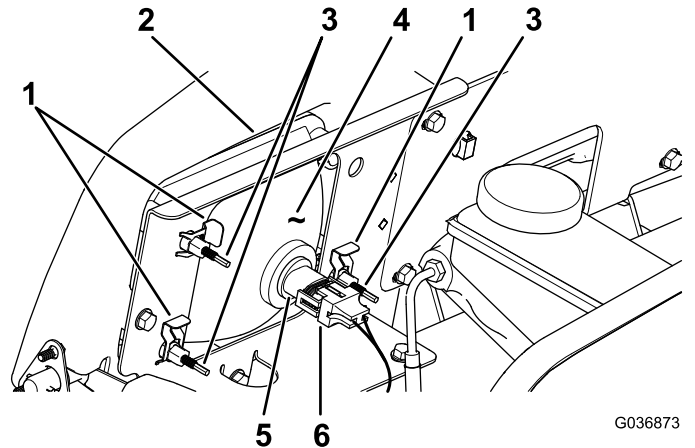

Figure 43
3. Disconnect the electrical connector for the harness from the connector of the lamp assembly (Figure 43).
4. Remove the speed clips that secure the headlight to the headlight bracket (Figure 43).
5. Remove the headlight assembly by moving it forward through the opening in the front bumper (Figure 43).
6. Install the new headlight through the opening in the bumper (Figure 43).
8. Connect the electrical connector for the harness to the connector of the lamp assembly (Figure 43).
2. At the back of the headlight assembly, rotate adjustment screws (Figure 43) to pivot the headlight assembly and align the position of the cast beam.